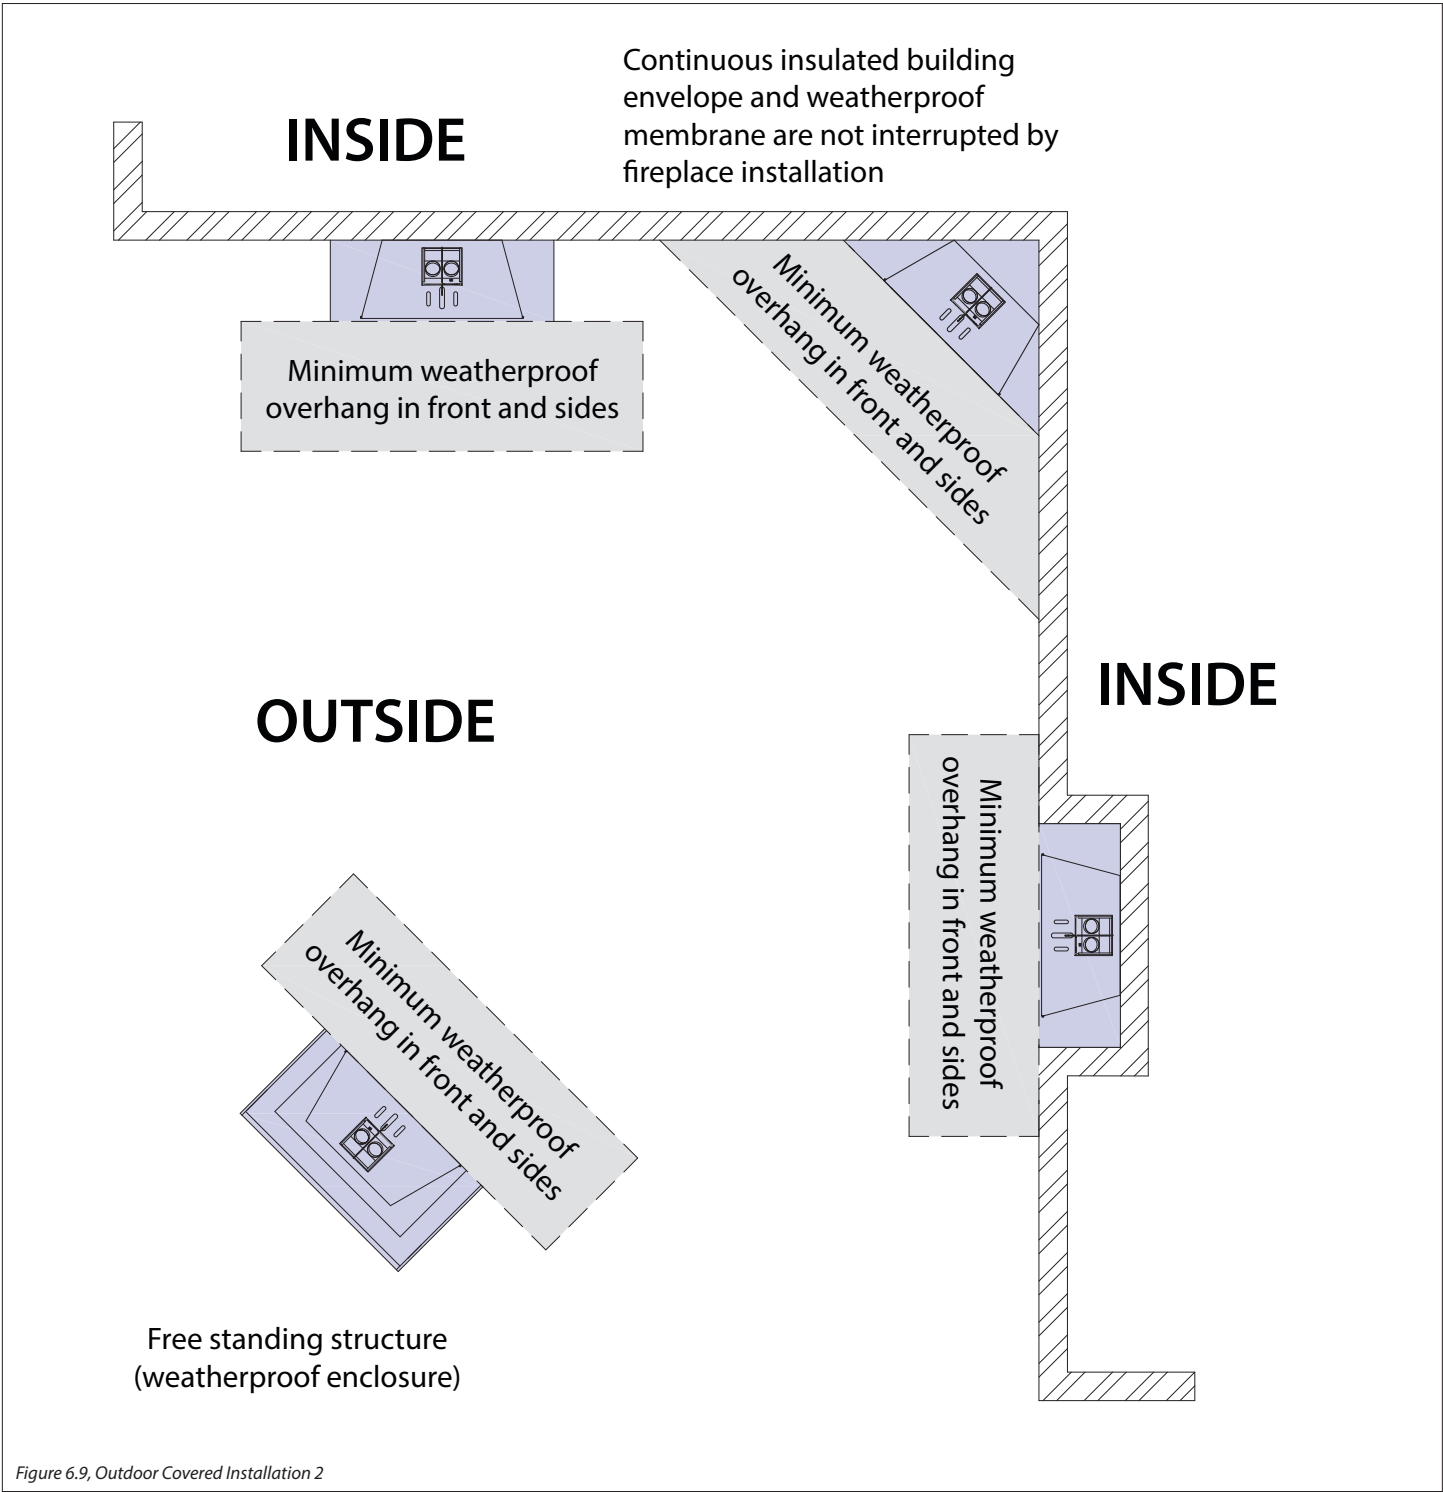

Figure 6.9, Outdoor Covered Installation 2
- The continuous insulated building envelope and weatherproof membrane are not to be interrupted by fireplace installation. See Figure 6.9 on the following page.